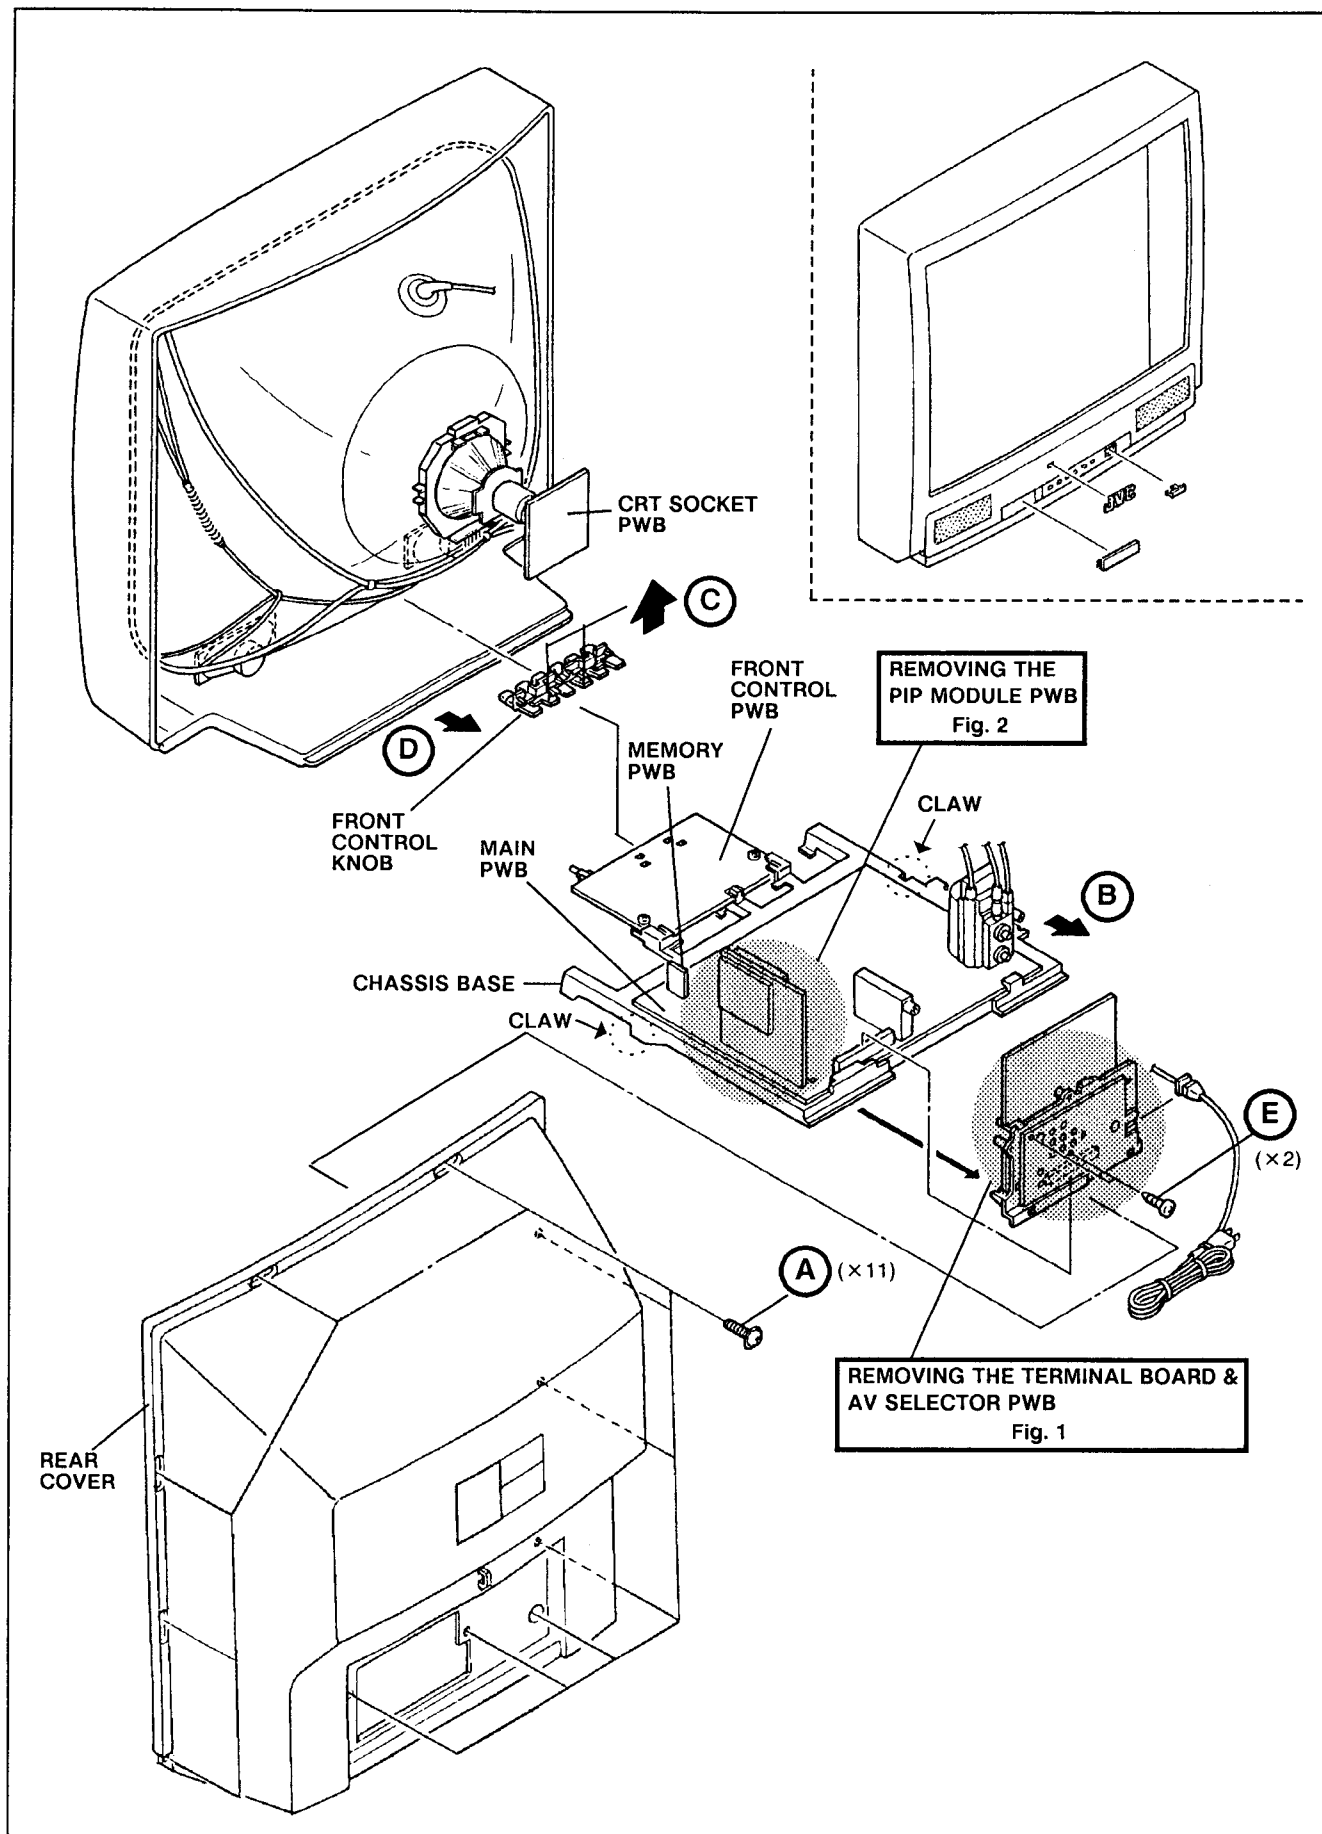

Fig. 3
1. Unplug the power supply cord and remove the eleven screws marked ㉔ as shown in the Fig. 3.
2. Draw the chassis backward along the rail in the arrow direction marked ㉕ as shown in the Fig. 3.
1. Remove the claws marked ㉖ by widening slightly in the direction of arrow in the Fig. 3.
1. Remove the two screws marked ㉘ as shown in the Fig. 3.
With the UP/DOWN key, select START CLOCK and start it with the LEFT/RIGHT key. (Fig. 3)
(Fig. 3)